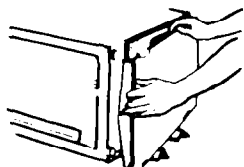

FIGURE 10
9. Lay two carton corner posts or other protective material (such as a throw rug) on the floor, then lay the unit on either of its sides on the corner posts. The corner posts will protect the finish of the compactor and the floor. See Figure 10 *NOTE: Do not truck or handle by console.*